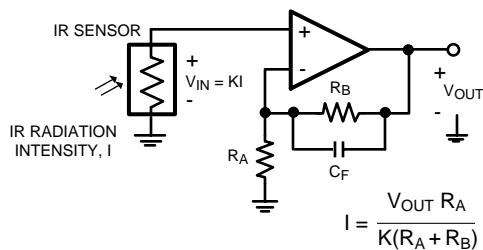

Figure 51. IR Radiation Sensor
The low input bias current and low input referred noise of the LM6211 make it ideal for sensor interfaces. These circuits are required to sense voltages of the order of a few μV , and currents amounting to less than a nA, and hence the op amp needs to have low voltage noise and low input bias current. Typical applications include infrared (IR) thermometry, thermocouple amplifiers and pH electrode buffers. Figure 51 is an example of a typical circuit used for measuring IR radiation intensity, often used for estimating the temperature of an object from a distance. The IR sensor generates a voltage proportional to I , which is the intensity of the IR radiation falling on it. As shown in Figure 51, K is the constant of proportionality relating the voltage across the IR sensor (V_{IN}) to the radiation intensity, I . The resistances R_A and R_B are selected to provide a high gain to amplify this voltage, while C_F is added to filter out the high frequency noise.